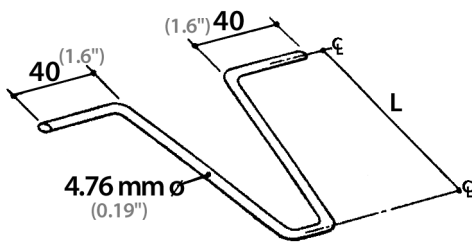

Figure 2 V-Tie™
**V-Tie™:** The V-Tie™ (Figure 2) is manufactured from 4.76 mm (0.19") diameter wire and is available in both hot-dip galvanized finish and stainless steel. The weight of the hot-dip galvanized finish is not less than 460 g/m2 (1.5 oz/ft.2) and satisfies the requirements of CSA A370 (which references ASTM A123), ACI 530.1/ASCE 6/TMS 602 (which references ASTM A153, 458 g/m2) and the International Codes (which reference ASTM A153, Class B, 458 g/m2).